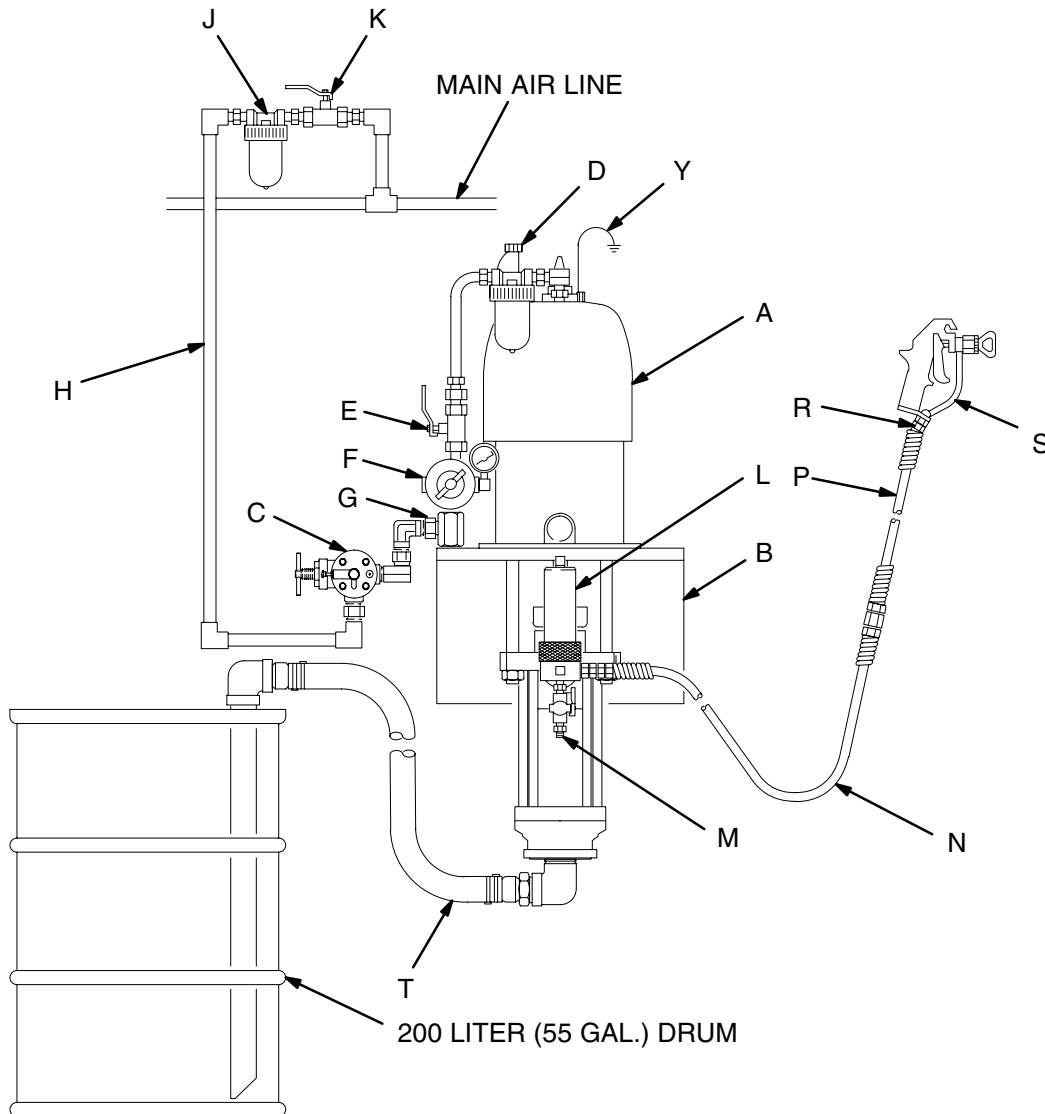

Fig. 3
Fig. 3 is only a guide for selecting and installing system components and accessories. Contact your Graco distributor for assistance in designing a system to suit your particular needs.
Mount the pump (A) to suit the type of installation planned. Fig. 3 illustrates a wall-mounted system. Pump dimensions and the mounting hole layout are shown on pages 36 and 37.
Install the following accessories in the order shown in Fig. 3, using adapters as necessary:
Install the following accessories in the positions shown in Fig. 3, using adapters as necessary:
- **A fluid filter (L)** with a 60 mesh (250 micron) stainless steel element, to filter particles from the fluid as it leaves the pump. It includes a **fluid drain valve (M)**, which is required in your system to relieve fluid pressure in the hose and gun (see the **WARNING** at left).
- **A gun or valve (S)** dispenses the fluid. The gun shown in Fig. 3 is an airless spray gun for light to medium viscosity fluids.
- **A gun swivel (R)** allows freer gun movement.
- **A suction kit (T)** allows the pump to draw fluid from a 200 liter (55 gallon) drum.